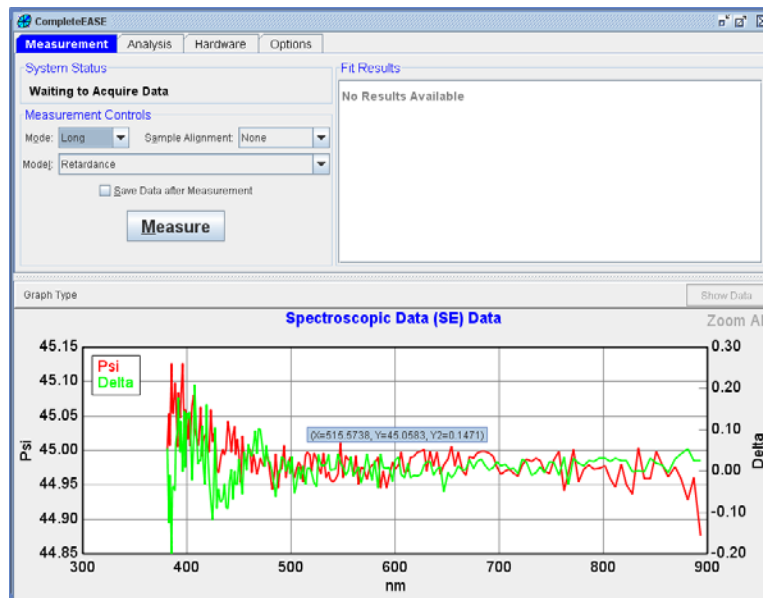

Figure 2-22. Typical Straight-Through (90°) SE data.
Ellipsometer accuracy is verified on a known sample. However, due to the high sensitivity of SE measurements to surface conditions and film changes, the most stable reference is air. To check the ellipsometric accuracy of the alpha-SE system, adjust the AOI to the 90° (“Straight Through”) configuration. On the CompleteEASE *Measurement* tab, choose the following settings (also shown in Figure 2-22):
Click ‘Measure’. The “Long” measurement will take about 30 seconds, and the measured spectroscopic ellipsometric (SE) data will be graphed in the bottom half of the CompleteEASE screen (Figure 2-22).